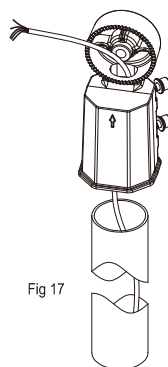

Fig 17
Step 2 . Pass the cable in the lamp post through the fixing base, as shown in Fig. 17